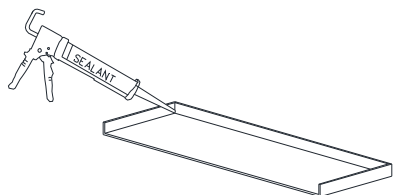

Figure 4:
- Apply sealant in all corners and seams of the sillpan (Figure 4).